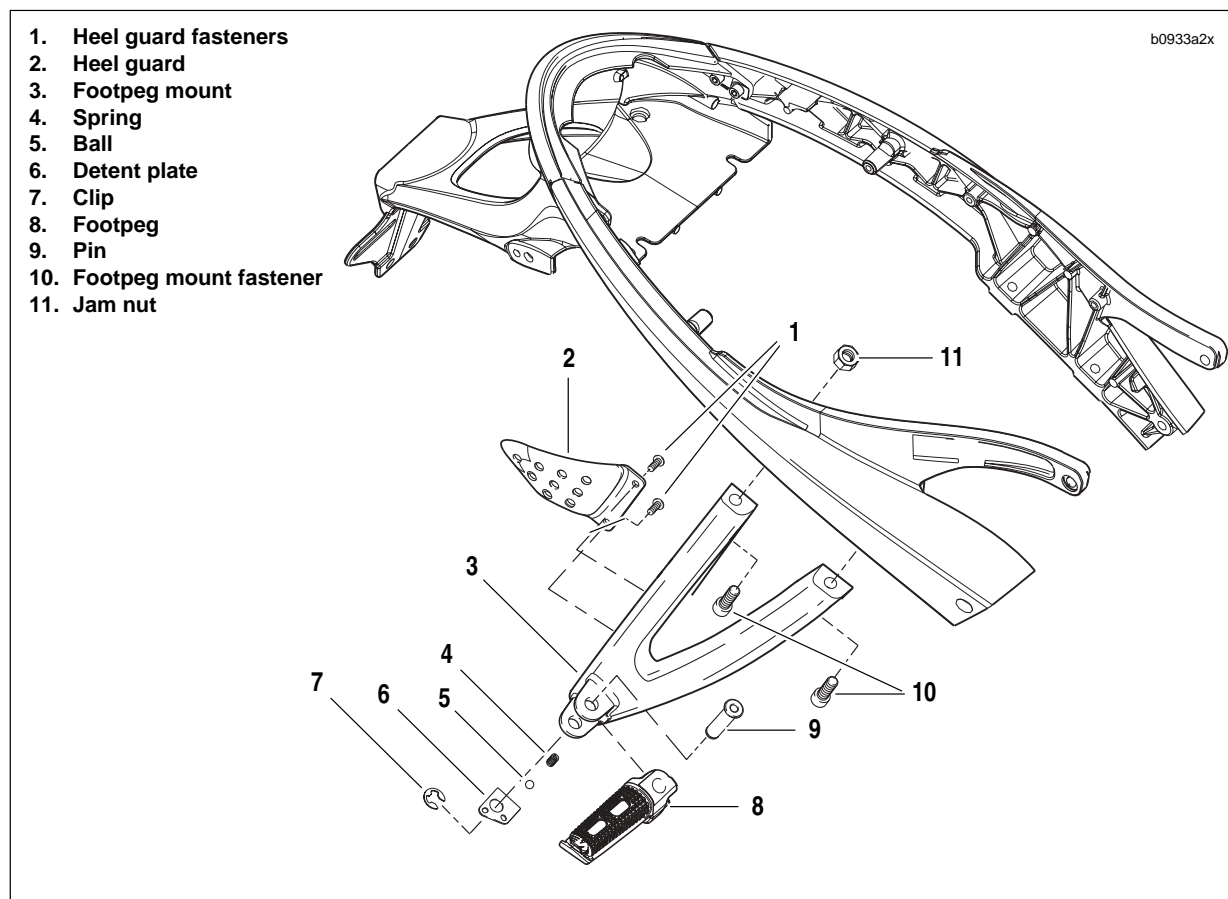

Figure 2-117. Passenger Footpeg, Mount and Heel Guard Assembly
1. See Figure 2-117. Remove clip (7).
2. Remove footpeg pin (9).
3. Remove footpeg (8), detent plate (6), ball (5) and spring (4).
1. See Figure 2-117. Remove heel guard fasteners (1).
2. Remove heel guard (2).
1. See Figure 2-117. Remove jam nuts (11).
2. Remove footpeg mount fasteners (10).
3. Remove footpeg mount (3).
1. See Figure 2-117. Position footpeg mount (3) onto tail section.
2. Apply LOCTITE 271 (Red) to footpeg mount fasteners (10), install and tighten to 25-28 ft-lbs (33.8-37.9 Nm).
3. Install jam nut (11) and tighten to 48-72 **in-lbs** (5.4-8.1 Nm).
1. See Figure 2-117. Position heel guard (2) onto footpeg mounts (3).
2. Install heel guard (2).
1. See Figure 2-117. Position footpeg (8), detent plate (6), ball (5), and spring (4) on to footpeg mount (3).
2. Install footpeg pin (9).
3. Install clip (7).